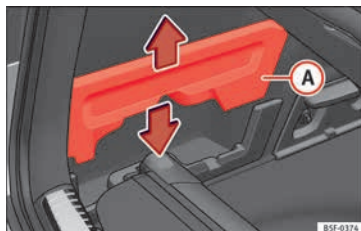

Fig. 164 In the luggage compartment: housing for storing the rear shelf.
- Remove covers » **Fig. 164** **A** left and right.